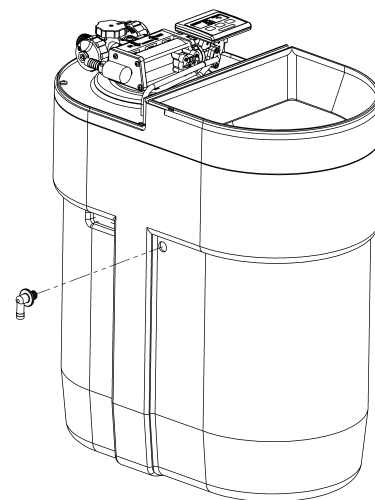

Figure 5: Gravity Overflow Connection
- A. Attach the overflow elbow and check that it is in the down position. (See Figure 5.)